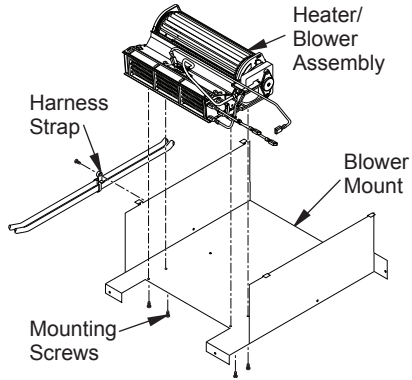

Figure 22 - Mounting Heater/Blower
8. Align blower assembly over hole pattern on blower mount and attach with 4 pan head screws provided (see Figures 22 and 23).